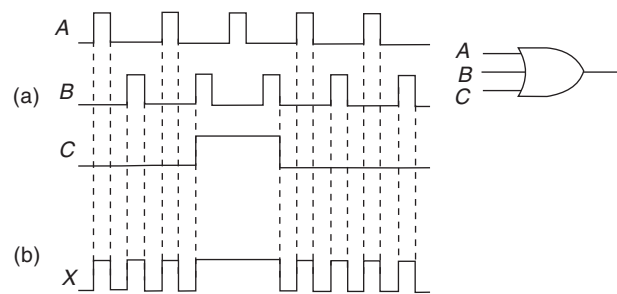

Fig. 4.23 The Output is HIGH when any of the Inputs are HIGH.
4.24 For the three-input OR gate shown in Fig. 4.23, determine the output waveform in proper relationship to the inputs.